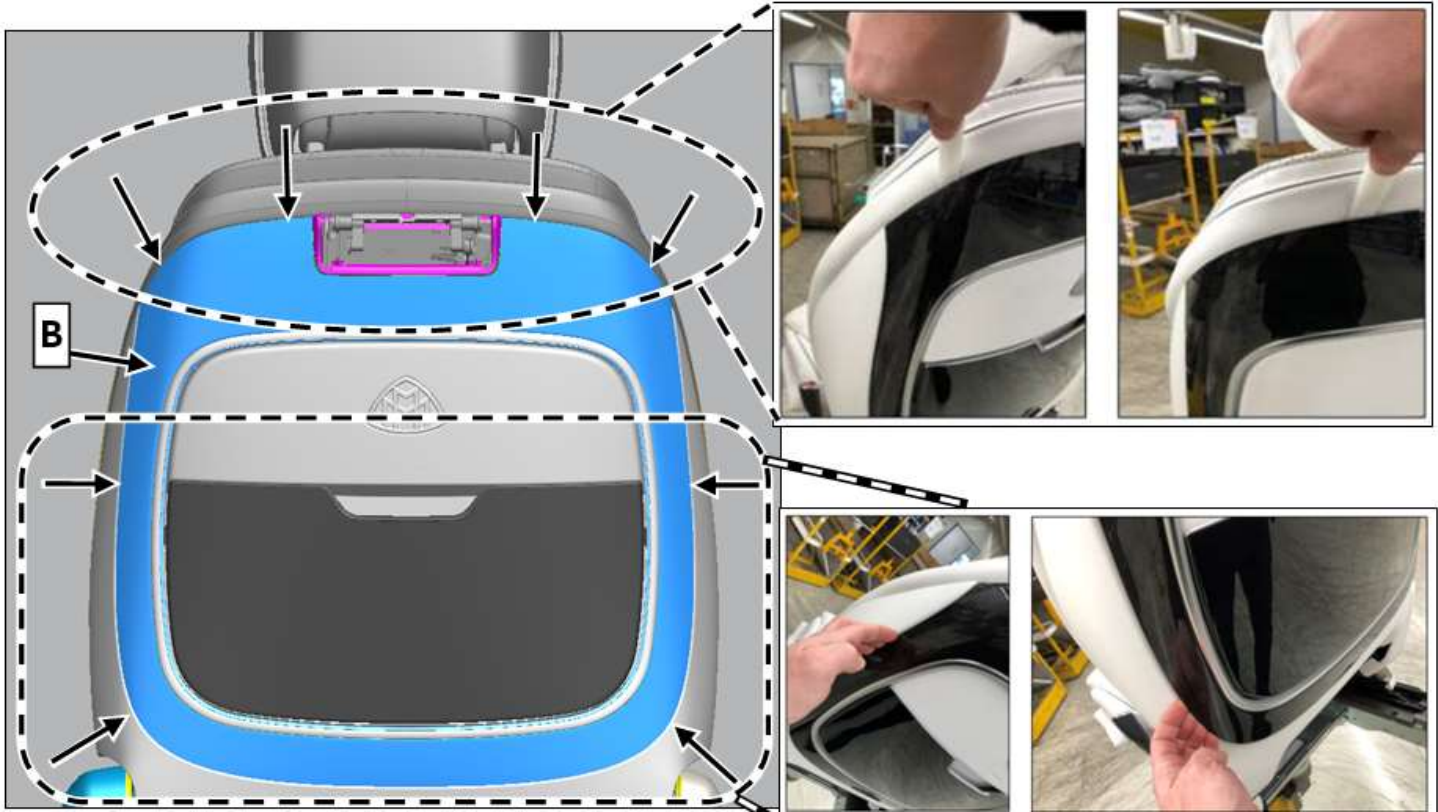

Figure 2
3. Unclip outer backrest mounting strip (B, figure 2).
i Unclip left and right outer backrest mounting strip with wedge (arrows, figure 2).
i Unclip outer backrest mounting strip on the lower left and right by hand (arrows, figure 2).